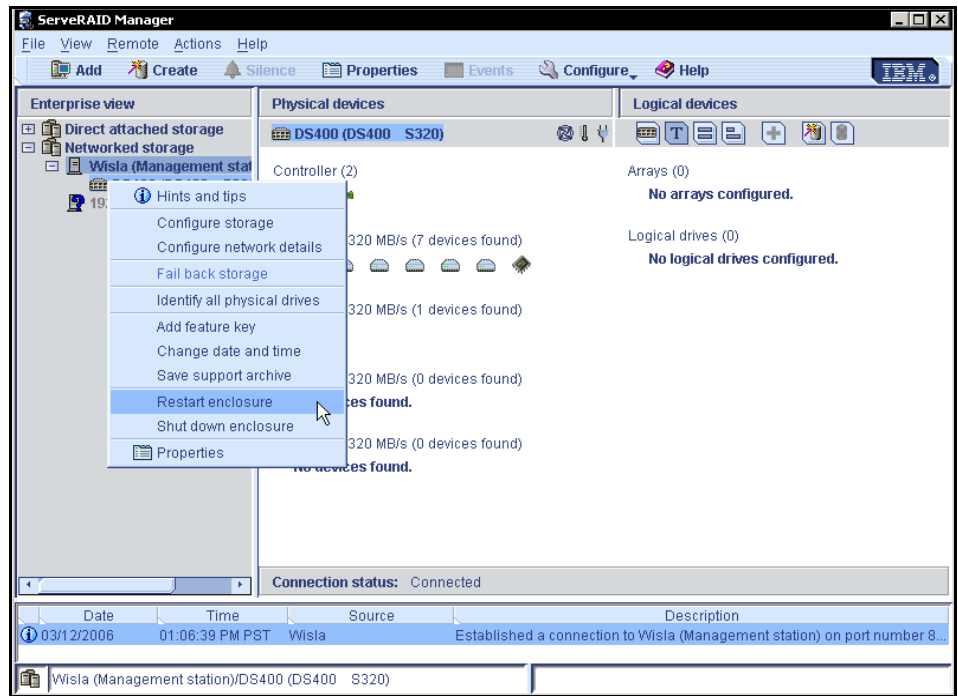

Figure 36 Finish and restart controller
- Once the update is complete, restart the enclosure by right-clicking the controller in the Enterprise view of the ServeRAID Manager program interface as shown in Figure 36.